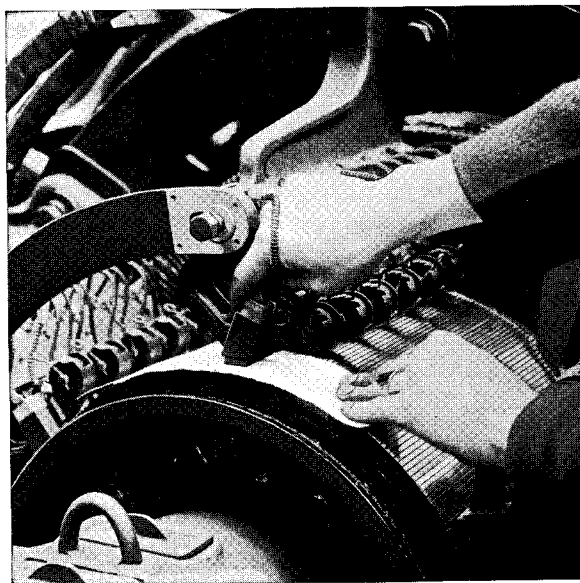

FIG. 3—GRINDING BRUSHES
**Erection of 'Belted Generators and Motors**—(1) Set the lower half of the frame and rocker ring in position. Level and insert the bearings, if they are separately shipped. Inspect the bearings and oil reservoirs carefully to be sure they are clean and free from dirt.
(2) After covering the journals with a film of oil, lower the rotating part into the bearings. Fill the bearings with oil to the proper level, place the bearing caps in position and screw down the cap bolts lightly.
(3) Clean the contact surface of both halves of the frame. Set the upper half in position and secure to the lower half by the bolts and feather keys. Swing the upper half of the rocker ring into place and, after securing it, see that it moves easily in its seat.
(4) Connect up the armature and field leads. Adjust the brushholders properly with respect to the commutator and see that the brushes are set on the factory brush position by following out the instructions in regard to brush position as given on page 2. After inserting the carbon brushes they should be ground to a perfect seat on the commutator, using sandpaper only. (See Fig. 3.)
(5) If mounted on soleplates, tighten the soleplate bolts and cement the soleplates to the foundation, using a mixture of one part of Portland cement and two parts of sand, or half cement and half sand; either will give good results. First mix the cement and sand dry and then add water until a very thin solution is obtained. Construct a dam around the bedplate and pour this solution under it continuing the process until the cement stands about half an inch above the bottom of the soleplates. The entire operation of mixing and pouring the cement should be carried on without interruption and as rapidly as possible until completed, otherwise, the cement first poured under the bedplate may partially set and prevent that poured later from flowing freely to all parts. When the cement has sufficiently hardened, remove the surplus from the outside and smooth up the joint under the soleplates.
(6) Adjustment of the air-gap—In setting up any machine in which the bearings are independent of the frame, great care must be exercised in the adjustment of the air-gap between the armature core and pole faces, as any inequality in this gap may cause unnecessary friction and heating of the bearings and unequal heating of the armature iron. Adjust the air-gap horizontally by shifting the frame, and vertically by means of thin sheet steel liners between the bedplate and the yoke. During this operation gauge the gap at different points on the front and back of the machine by inserting thin feelers in the air gap and measuring the thickness of the stack of feelers.
(7) Connect up the field and armature leads. Insert the brushes in their holders, grinding them in with sandpaper. See Fig. 3. See that the brushes move freely in the holders and are held under an equal and moderate pressure. Two to two and a half pounds per square inch of cross sectional area is a normal pressure. At the same time check to see that the brush alignment